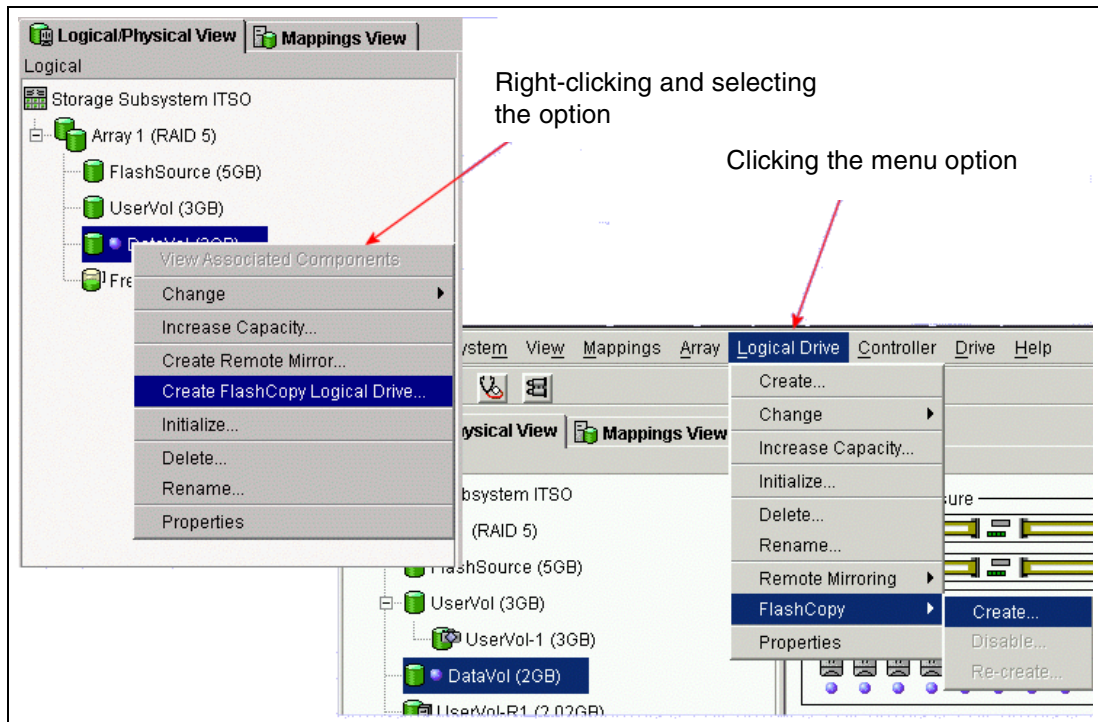

Figure 5-8 Create FlashCopy menu options
- b. Click **Logical Drive-> FlashCopy-> Create**. Or you can right-click and select **Create FlashCopy Logical Drive**. See Figure 5-8.